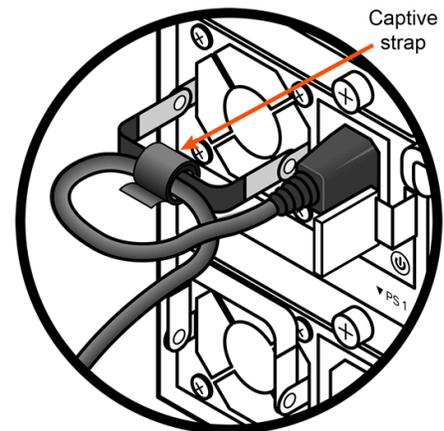

Figure 17-1. Removing the Captive Strap
1. Unwrap the captive strap from each power plug. See Figure 17-1.